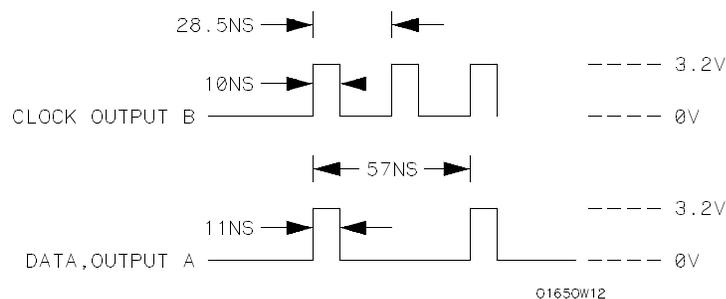

Figure 3-16. Waveform for Data Test 3
2. Adjust pulse generator for the outputs in figure 3-16.